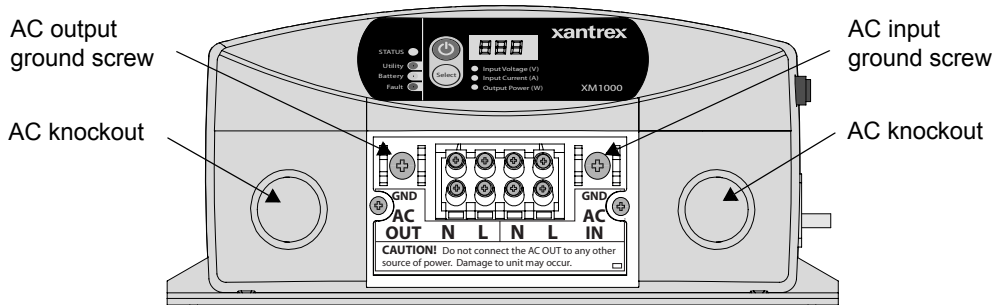

Figure 3-5 XM 1800 AC Wiring Compartment
5. Remove the right-hand side AC wiring knockout from the front of the unit (see Figure 3-5 on page 3–16).
A separate screw is provided to connect the AC input ground (see Figure 3-5 on page 3–16).